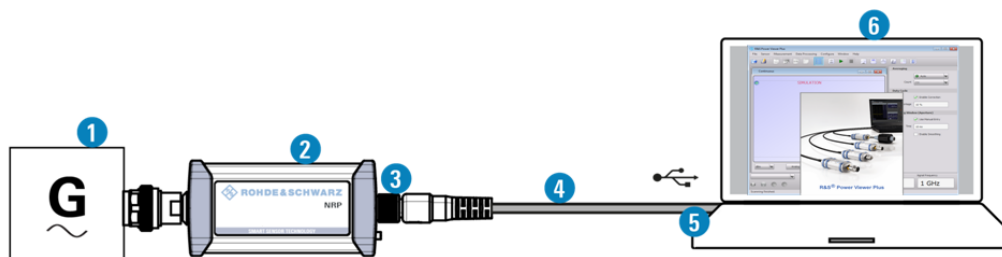

Figure 3-11: Configuration with the R&S Power Viewer Plus
1. Connect the cables as shown in Figure 3-11.